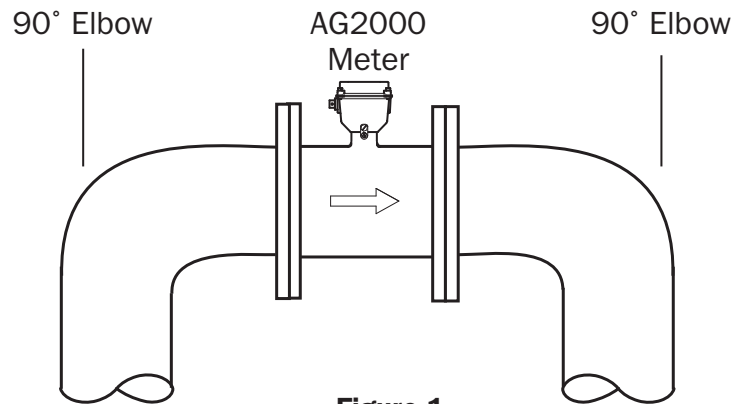

Figure 1
**90° Elbow Test (Figure 1).** In the first test, performed in the Seametrics lab, an AG2000-Series flow meter was connected to a 90° elbow with no straight pipe on either the upstream or downstream sides. Testing demonstrated approximately 1% deviation in the meter's accuracy.